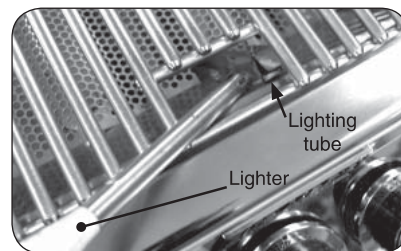

Fig. 17-2 - Manual lighting
2. Insert either a burning long-barrel butane lighter or a burning long-stem match through the cooking grid opening to the top of the lighting tube. (Fig. 17-2). For backburners, hold the flame against the perforated material of the backburner.
4. If the burner does not light, **immediately depress the knob and turn the valve to OFF**. **WAIT FIVE (5) MINUTES** before repeating steps 2 through 4 of the **MANUAL LIGHTING** instructions.